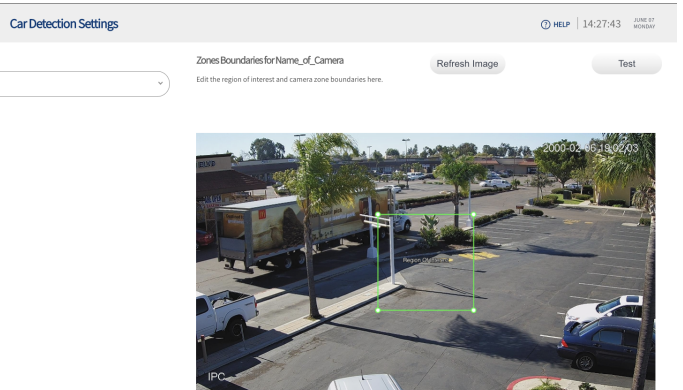

Fig. 4.4
2. In the Camera Preview window the image will appear with a green bounding box in the middle. This box represents your ROI. You will now need to adjust the size and shape to define the ROI you wish the camera to focus on in the image. See Fig. 4.4.